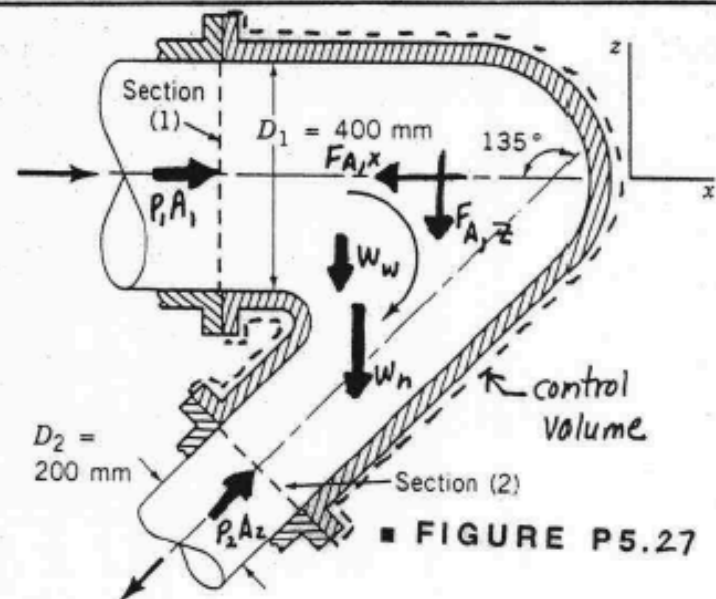

**FIGURE P5.23**
**5.23** Determine the anchoring force required to hold in place the conical nozzle attached to the end of the laboratory sink faucet shown in Fig. P5.23 when the water flowrate is 10 gal/min. The nozzle weight is 0.2 lb. The nozzle inlet and exit inside diameters are 0.6 and 0.2 in., respectively. The nozzle axis is vertical and the axial distance between sections (1) and (2) is 1.2 in. The pressure at section (1) is 68 psi.